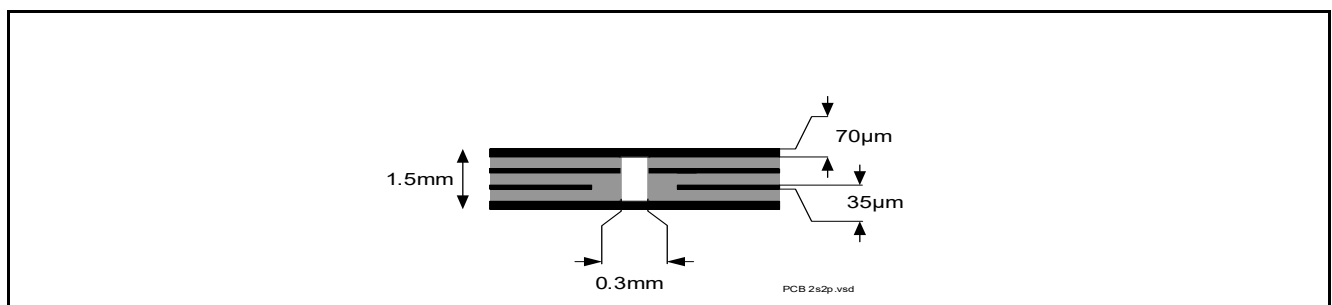

Figure 4 2s2p PCB Cross Section
- 2) Specified R_{thJA} value is according to JEDEC JESD51-2,-5,-7 at natural convection on FR4 2s2p board with 1 W power dissipation equally dissipated for both channels at $T_A=105^{\circ}\text{C}$; The product (chip + package) was simulated on a 76.4 x 114.3 x 1.5 mm board with 2 inner copper layers (2 x 70 μm Cu, 2 x 35 μm Cu). Where applicable, a thermal via array under the exposed pad contacts the first inner copper layer. Please refer to Figure 4.